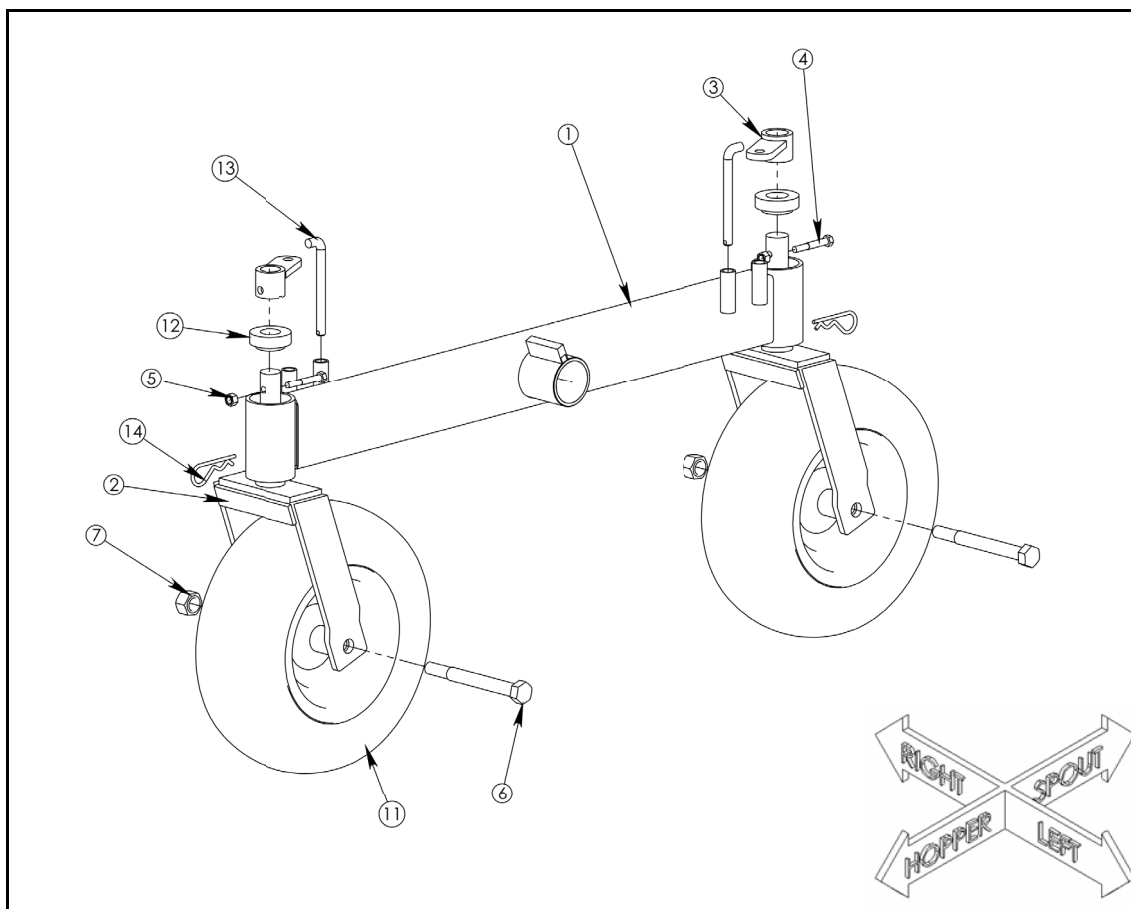

Figure 3.6 Caster Assembly
2. Install two bearings (12) at each end of the walking beam (1) (see Figure 3.6).
3. Insert angled fork (2) on each end of the walking beam (1) in the bearings and locking pipes (3). Fasten the locking pipes with 3/8" x 2-1/2" bolts (4) and 3/8" locknuts (5).
4. Mount the wheels (11) and insert three 3/4" flat washers (15) on each side of each wheel hub. Secure with 3/4" x 7" bolts (6) and 3/4" locknuts (7).
5. Add 1/2" x 5" hitch pins (13) and hair pins (14).